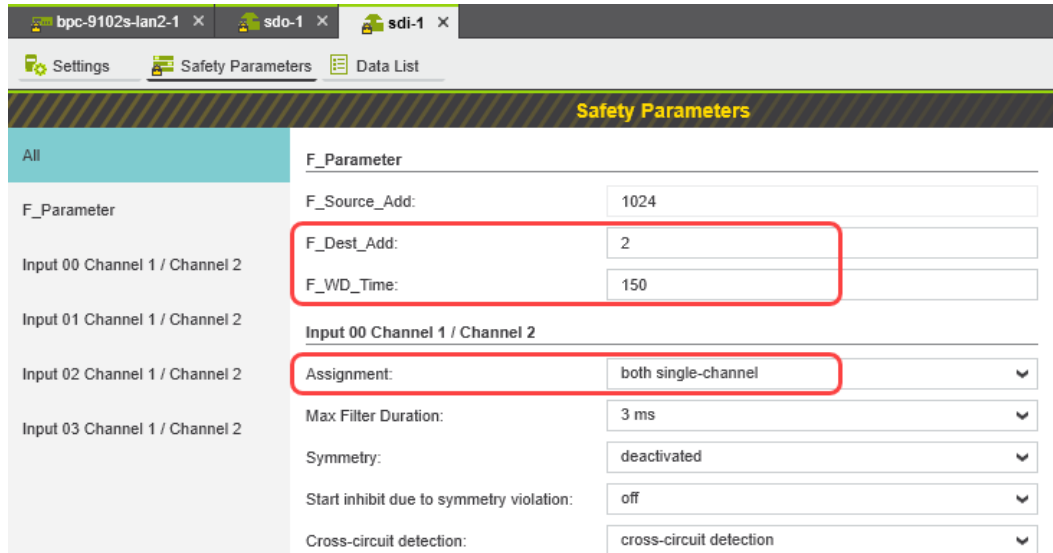

Figure 6-34 “Safety Parameters” editor: AXL F PSDI8/4 1F
- Under the “Profinet (x)” node in the “PLANT” area, double-click on the lower-level node of the safety module whose safety parameters you want to set (in the example in Figure 6-34: AXL F PSDI8/4 1F).